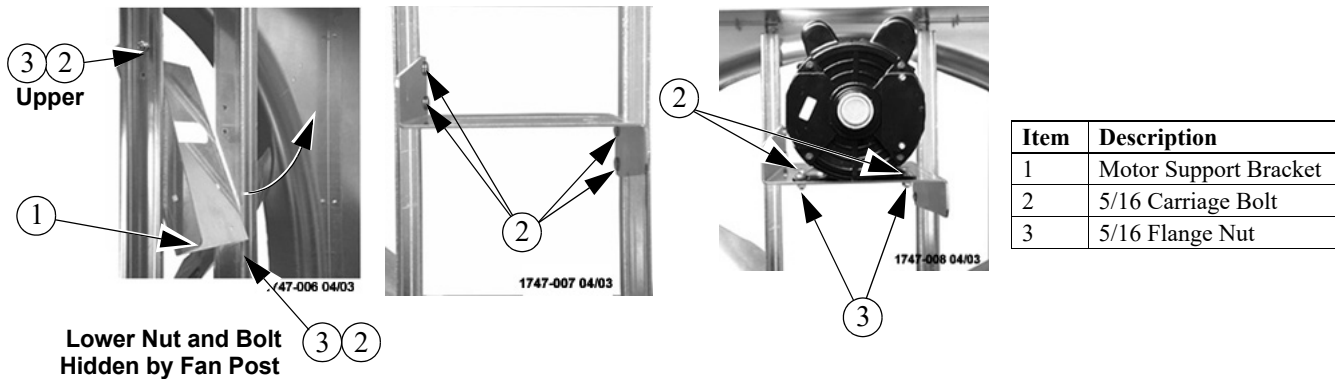

Figure 9. Attaching the Motor Support Bracket and Motor
Rotate the Motor Support Bracket into the upright position by removing the **Upper** Carriage Bolt and Nut and loosening the **Lower** Bolt and Nut (See **Figure 9**). Rotate the Motor Support Bracket until it is perpendicular to the Fan Posts and fasten with (4) 5/16 Carriage Bolts and (4) 5/16 Flange Nuts. *Note that the Nuts go outside the Posts.* Remove the Motor from the Crate and attach it to the Motor Support Bracket with (4) 5/16 Carriage Bolts and (4) 5/16 Flange Nuts as shown.